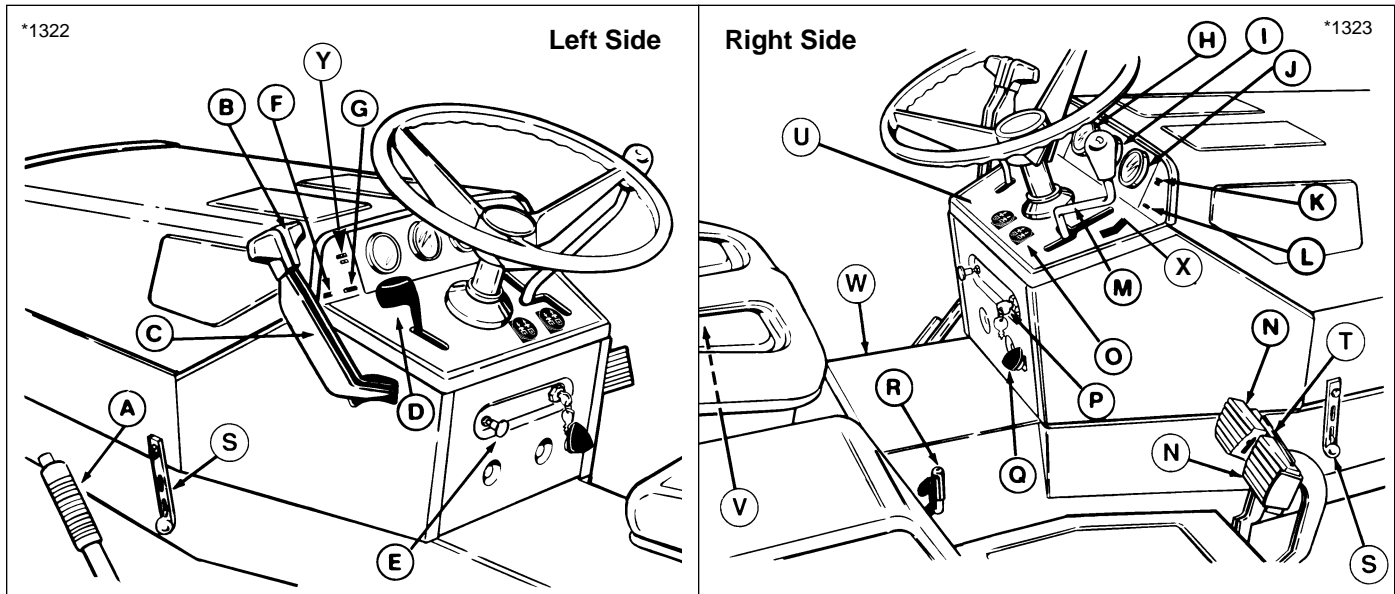

Figure 2. Tractor Controls
- A. Neutral Indicator Light (G, figure 2) should go on with ground speed control lever in neutral gate and should go out when lever is moved to either the forward or reverse gate.
- B. Front PTO Indicator Light (K, figure 2) should go on and off with operation of PTO switch.
- C. Oil Pressure Indicator Light (F, figure 2) should be on and should go out immediately after engine starts.
- D. Operator Seated Indicator Light (L, figure 2) should go on when operator is present in the seat and should go off as operator rises out of the seat.
5. Start the engine and turn the front wheels straight ahead. Using the hydraulic lift lever (B, figure 2), raise the mower to full transport position, then shut off the engine.